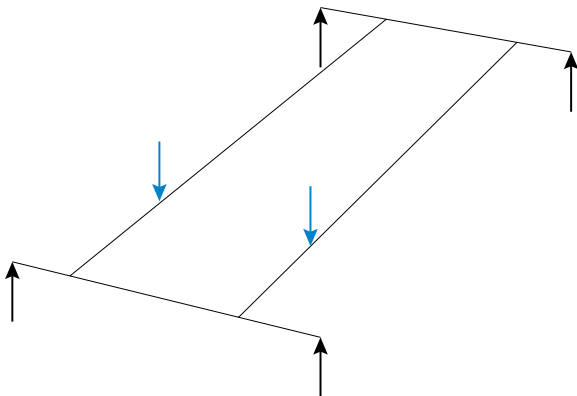

Figure 2 Schematic diagram showing simplistic modelling for bridge beams whereby simple model loads (blue arrows) are applied to the bridge beam centreline
- Analysis of the crane structure designs being investigated indicates that computer modelling was simplistic (Figure 2), and there was no modelling of the eccentric loading of the trolley wheels relative to the centreline of the bridge beams (Figure 3).